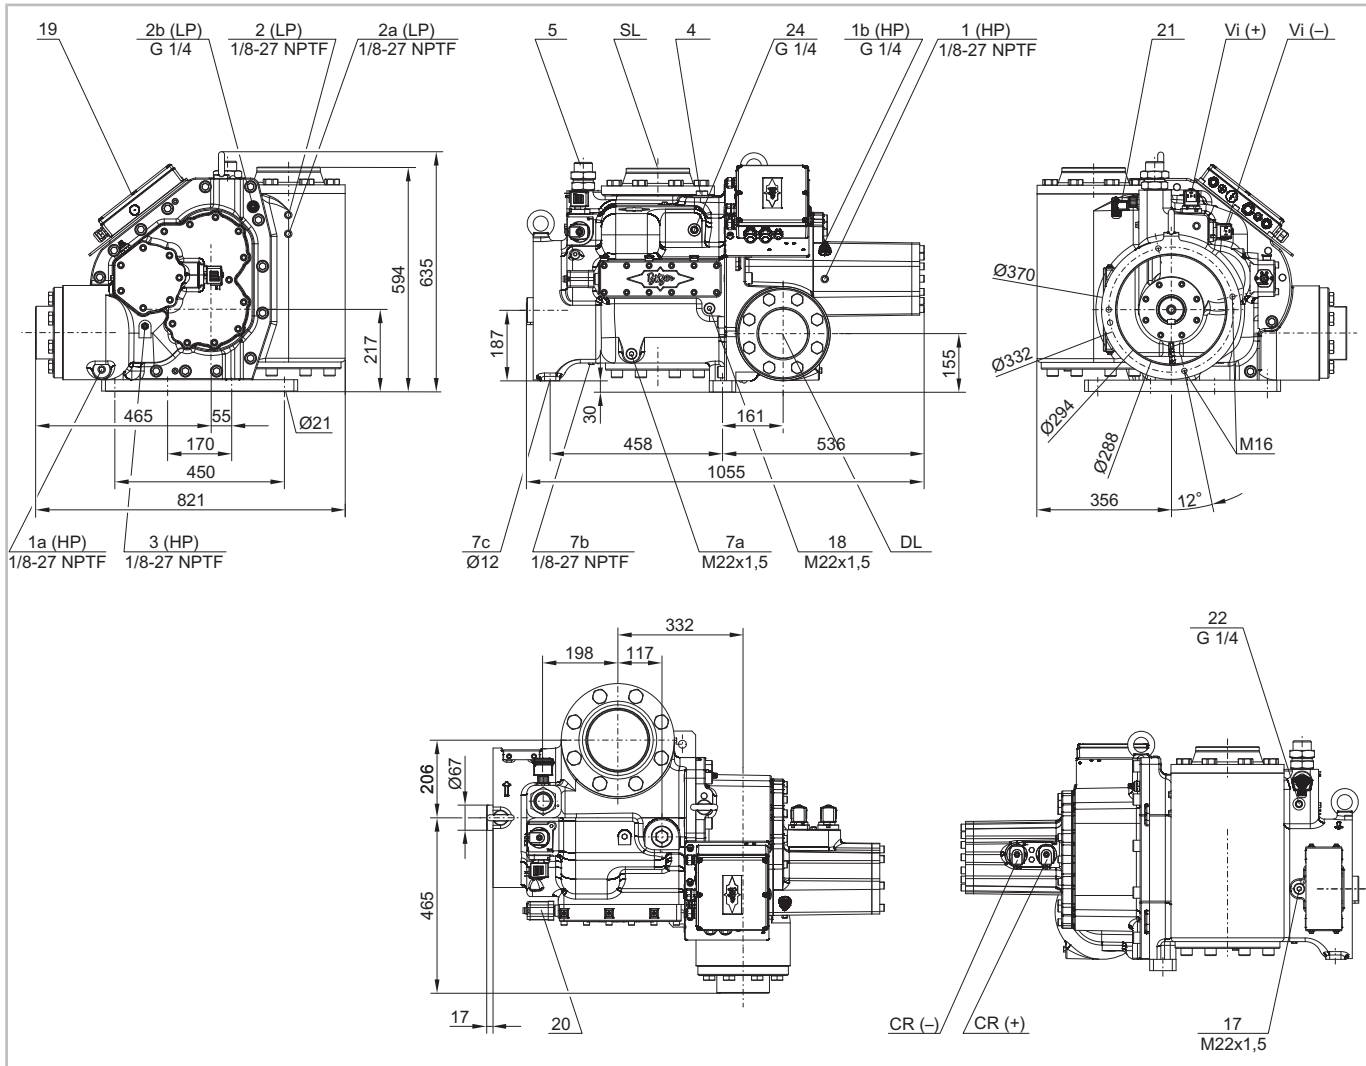

Fig. 2: Dimensional drawing OS.A9593 .. OS.A95103
- unscrew the plug (see figure 2, page 26, Pos. 24),
To prevent dry running of the shaft seal during the compressor start, charge approx. 1 l oil in the connection for oil injection (see figure 2, page 26, pos. 5).